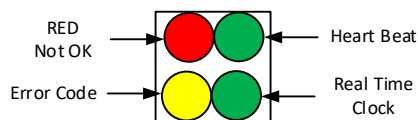

Fig. 5.6. Oven Controller PCB Communication Indicators
There are four large LEDs at the top, front edge (closest to the front door) of the Oven Controller (OC) PCB, arranged in a 2 by 2 square as shown in Figure 5.6: